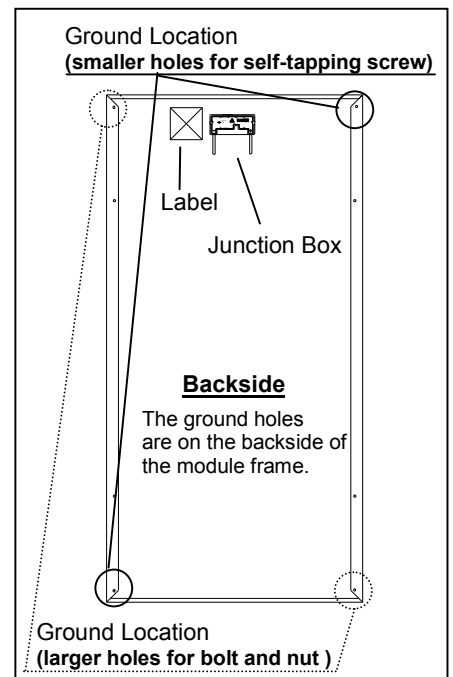

Figure 3.1
- Each ledge on the module frame has two smaller holes for self-tapping screws (0.165" diameter (4.2 mm)) and two larger holes for bolts (0.205" diameter (5.2 mm)). These ground holes are marked with a "G" adjacent to their location on the frame rail (see Figure 3.1). Ground wires must be connected to the module's metal frame at one of these location.
Method 1- Use a self tapping screw (see Figures 3.1 and 3.2)
Method 2- Use a bolt and nut (see Figures 3.1 and 3.3)
Note: Use the smaller ground holes illustrated in Figure 3.1.
Note: Use the larger ground holes illustrated in Figure 3.1.